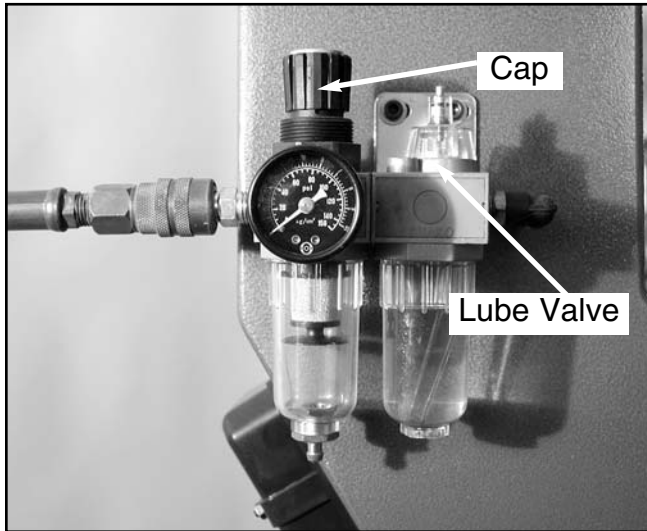

Figure 5. Lift and turn cap to adjust air pressure. Turn lube valve to lubricate foot switch control.
5. To raise the air pressure, lift the air unit cap and turn it counterclockwise as shown in **Figure 5**.